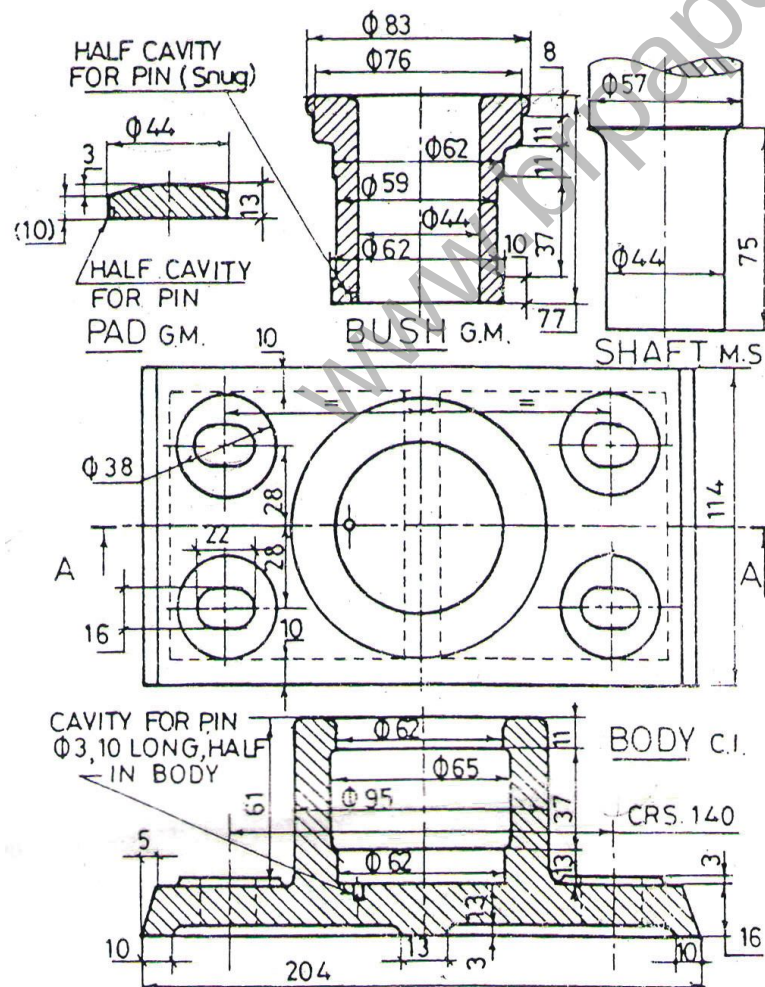

Fig. 1 Details of a Foot Step Bearing
6. Fig. 1 shows the details of a Foot Step Bearing. Draw full sectional view of the assembly and simple plan. (30)